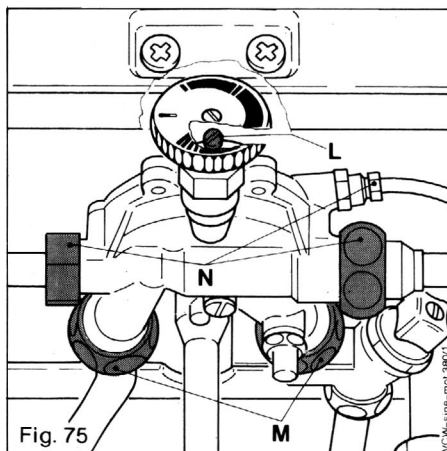

Fig. 75
Slacken union nuts (M, fig. 75) and collect water in suitable container.
Unscrew the four union-nuts on the water section (M and N, fig. 75).
14.11.3 Cleaning of water section (Fig. 75)
Remove water section by unscrewing water connections (M and N, fig. 75) and loosening screw L.